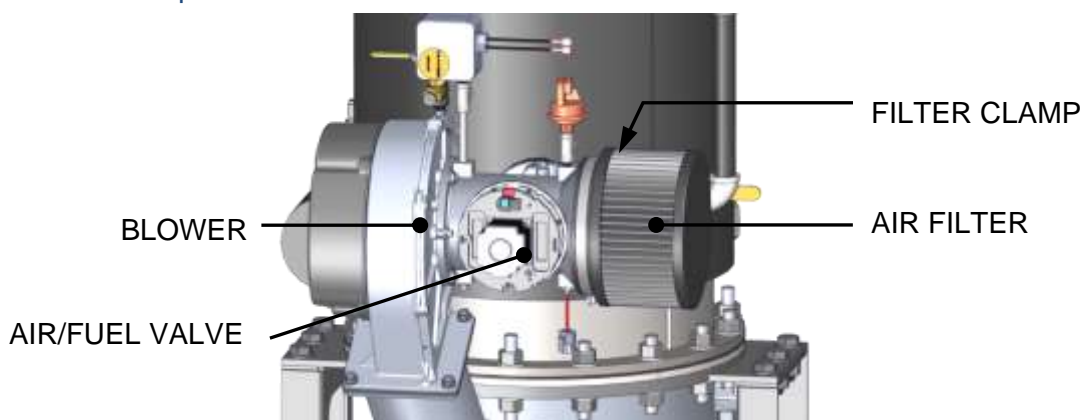

Figure 6.10: Air Filter Mounting Location
3. Refer to Figure 6.10 and locate the air filter attached to the air/fuel valve inlet.